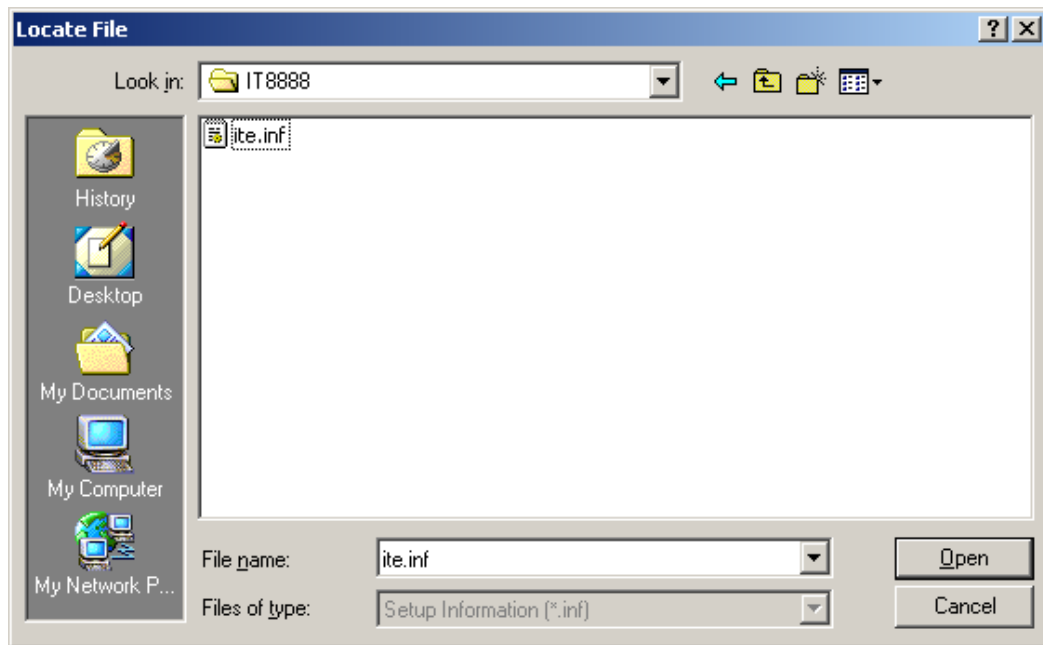

Figure 7-31: Location Browsing Window
Step 19: Select "X:\IT8888" directory in the location browsing window, where "X:\\" is the system CD drive (Figure 7-31).